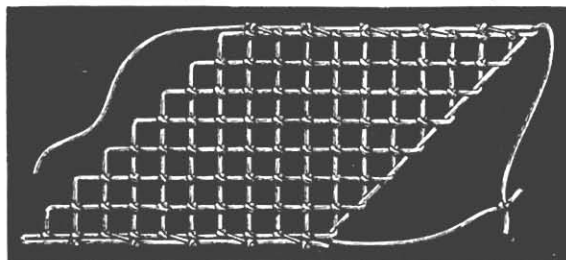

Fig. 8. Strip of straight net.
**Strip of straight net** (fig. 8). — The simplest way to make such strips is to cast on the required number of stitches, decrease on one side by joining two stitches by a knot and increase on the other side by making two knots in one stitch. Care must be taken not to change the order of the decreases and the increases as any mistake of that kind would interrupt the lines of the squares.